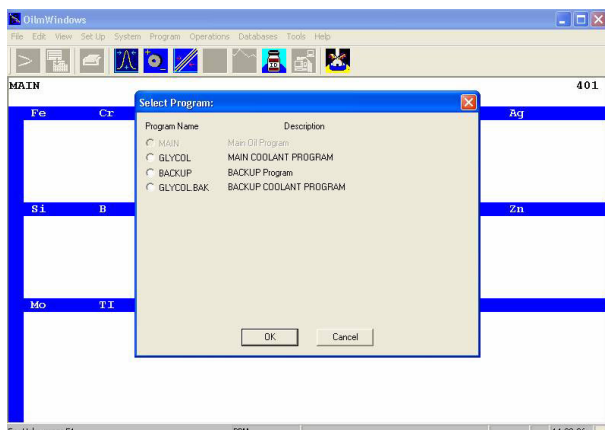

Figure 2-20, Select Program Screen
1. To load the COOLANT program select **File** from the pull down menu options, then **Open**. A list of available programs will be displayed, Figure 2-20. Select the radio button for the GLYCOL (MAIN COOLANT PROGRAM) and press **OK**. The program is now loaded and ready for the standardization procedure.